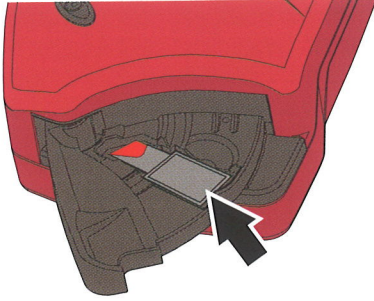
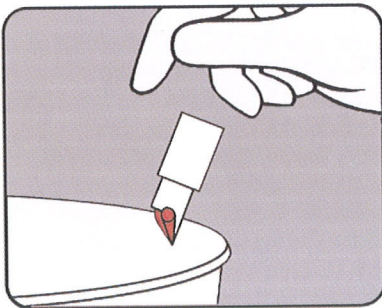

FIGURE 3-11
FIGURE 3-13
k) Place the filled Cuvette in the Cuvette holder, see FIGURE 3-11.
e) Perform the measurement as described in *FIGURE 3-11*, and *FIGURE 3-13* in section 3.1 *Capillary blood*.